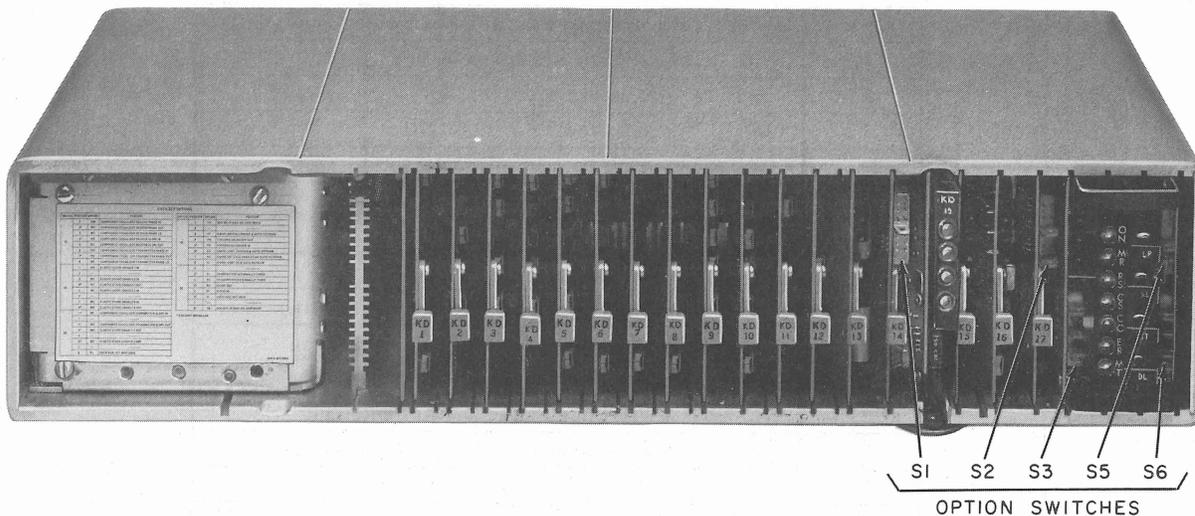

Fig. 3—Data Set 209A-L1 With Faceplate Removed—Front View
2.17 DS 209A-L1 is provided with a number of features which may be requested as options by the customer. A detailed description of these options is given in Sections 592-032-150 and 592-032-200. All options, with the exception of the ground option, are added and removed by switches shown in Fig. 3 and Table D. Options installed in the data set should be identified on the option label which is attached to the front of the power unit.